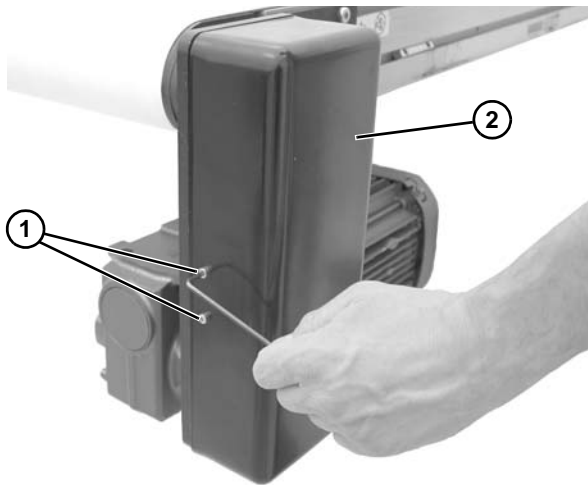

Figure 24
4. Remove four (4) screws (Figure 24, item 1) and remove cover (Figure 24, item 2).